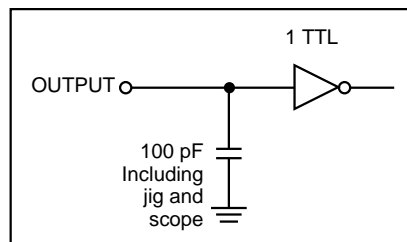

Figure 1
1. Test conditions assume signal transition times of 5 ns or less, timing reference levels of 1.5V, input pulse levels of 0.4V to 2.2V and output loading specified in Figure 1.
| Output Load | See Figures 1 and 2 |